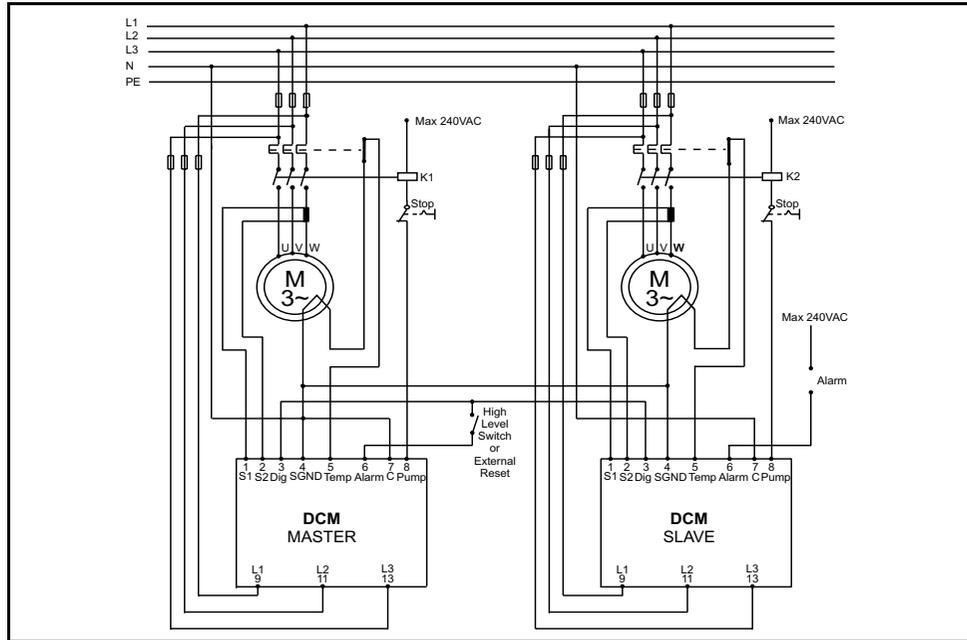

Fig. 11 Dual-pump example.
Connect the main voltage from each pump to the respective EL-FI DCM as described in chapter 4.1.1, page 26. See Fig. 11, page 33.
Connect the current transformers from each pump to the respective EL-FI DCM as described in chapter 4.1.2, page 26. See Fig. 11, page 33.
Terminal 6 and 7 on the DCM SLAVE are the alarm relay connections. These terminals indicates an alarm if a fault is detected by DCM MASTER or DCM SLAVE. See Fig. 11, page 33. When powered off the alarm relay is **nc** (normally closed). When powered on, **nc** or **no** (normally open) can be selected. See Table 8, on page 51, window 51.
Terminals 3 (DIG) and 4 (SGND) are connections for closing contacts and for communicating between DCM MASTER and DCM SLAVE. The digital Input can be used for high-level switch or external reset. The high-level switch must be connected in serial with DCM MASTER terminal 6 (ALARM) and terminal 7 (C). When external reset is chosen use pulse signal. Connect terminal 3 (DIG) on the DCM MASTER to terminal 3 (DIG) on the DCM SLAVE. Connect terminal 4 (SGND) on the DCM MASTER to terminal 4 (SGND) on the DCM SLAVE. See Fig. 11, page 33 and Table 8, on page 51, window 53.
Connect the control signals for the start and stop equipment for each pump to the respective EL-FI DCM as described in chapter 4.1.4, page 27, see Fig. 11, page 33.
Connect temperature sensor and/or motor protection for each pump to the respective EL-FI DCM as described in chapter 4.1.6, page 28. See Fig. 11, page 33.
1. In window 71 set the required monitor function. Dual-pump control MASTER (2) for one of the EL-Fi DCMs and for the other EL-Fi DCM dual-pump control SLAVE (3). The DCM MASTER must be the DCM that is wired for MASTER, see Fig. 11, page 33.
If the pump is snoring and the high-level switch gives the signal to pump, this is a fault situation and an F4 alarm is generated and the ALARM relay is activated. If communication between the DCM MASTER and the DCM SLAVE is interrupted an F4 alarm is generated and the ALARM relay is activated. See Fig. 11, page 33, chapter 5.1.4, page 35.
It is also possible to connect a motor protection relay to generate an F5 alarm. See Fig. 9, page 25 and Fig. 11, page 33.